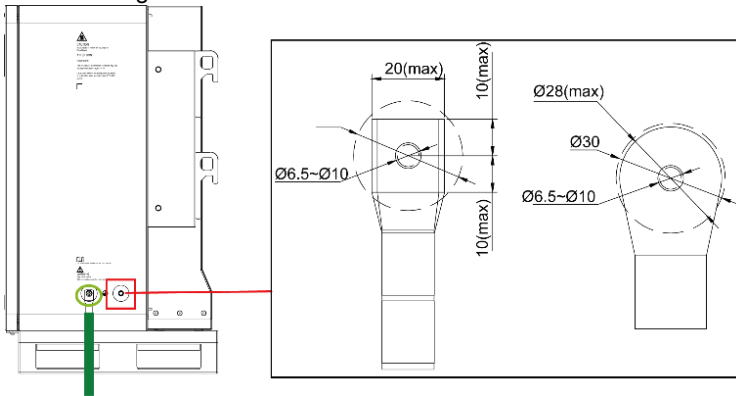

Figure 4-6 External Ground Cable Connection
- Connect the external grounding point as shown in Figure 4-6.